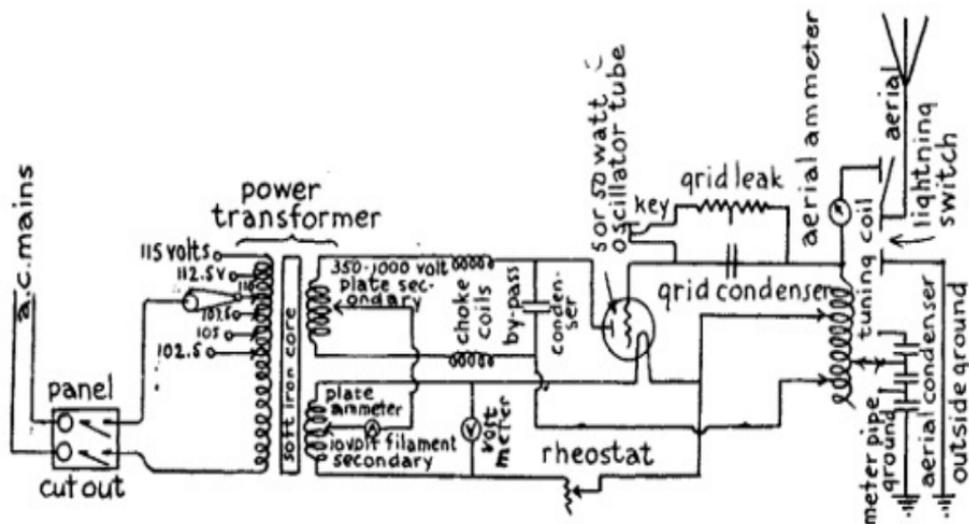
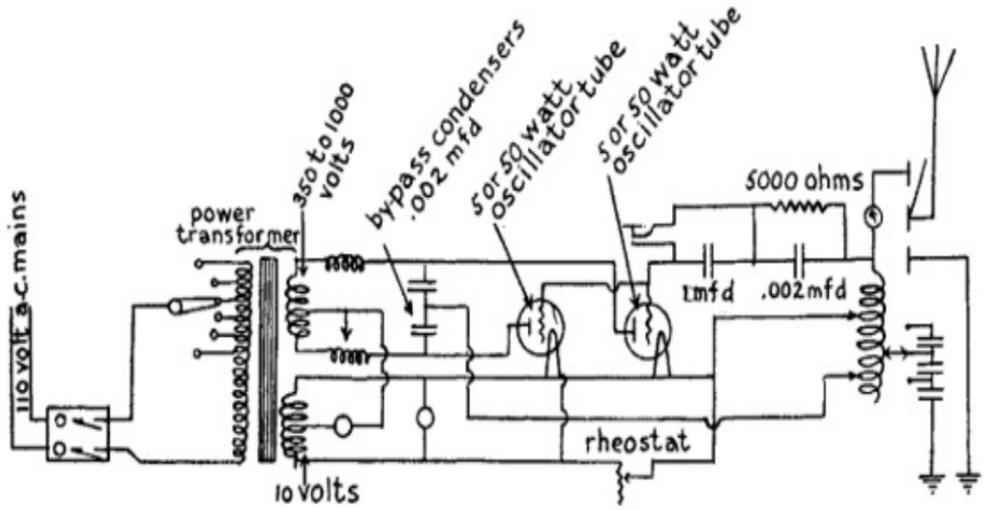

FIG. 82.—Wiring Diagram for 200 to 500 Mile C. W. Telegraph Transmitting Set.
FIG. 83.—Wiring Diagram for 500 to 1000 Mile C. W. Telegraph Transmitter.
*Connecting Up the Apparatus.*--The wiring diagram Fig. 82 shows clearly how all of the connections are made. It will be observed that a storage battery is not needed as the secondary coil of the transformer supplies the current to heat the filament of the oscillator. The filament voltmeter is connected across the filament secondary coil terminals, while the plate milli-ammeter is connected to the mid-taps of the plate secondary coil and the filament secondary coil.
Distances of from 200 to 500 miles can be successfully covered with a telegraph transmitter using two, three or four 5 watt oscillator tubes in parallel. The apparatus needed is identical with that used for the 100 mile transmitter just described. The tubes are connected in parallel as shown in the wiring diagram in *Fig. 83*.
*Connecting Up the Apparatus.*--Where a single oscillator tube is used the parts are connected as shown in *Fig. 82*, and where two tubes are connected in parallel the various pieces of apparatus are wired together as shown in *Fig. 83*. The only difference between the 5 watt tube transmitter and the 50 watt tube transmitter is in the size of the apparatus with one exception; where one or two 50 watt tubes are used a second condenser of large capacitance (1 mfd.) is placed in the grid circuit and the telegraph key is shunted around it as shown in the diagram *Fig. 83*.